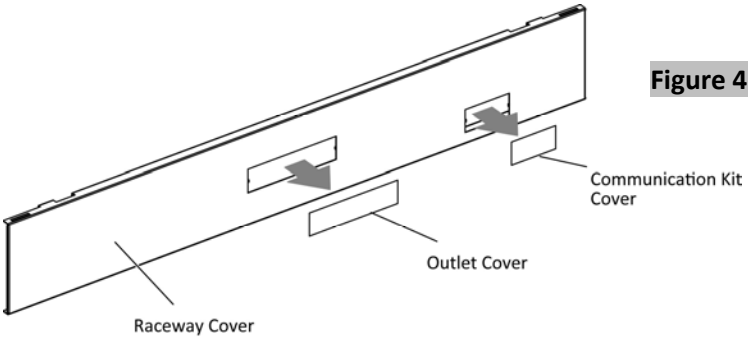

Figure 4
- 5. Pop-out the outlet cover and communication kit cover of the raceway cover that are to be electrified, (Figure 4).